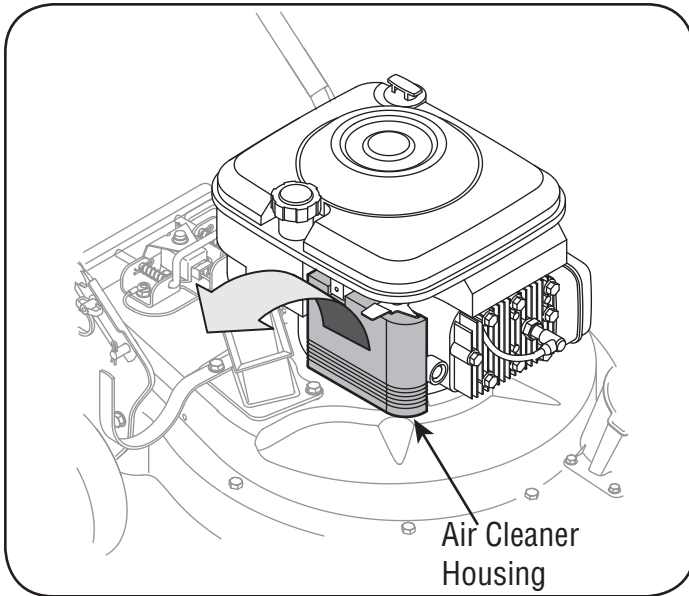

Figure 15
1. Loosen screw and tilt plastic housing cover on side of engine down. See Figure 15.
Clean the spark plug and reset the gap to .030" at least once a season or every 50 hours of operation. See Figure 15. Spark plug replacement is recommended at the start of each season. Refer to engine parts list for correct spark plug type.